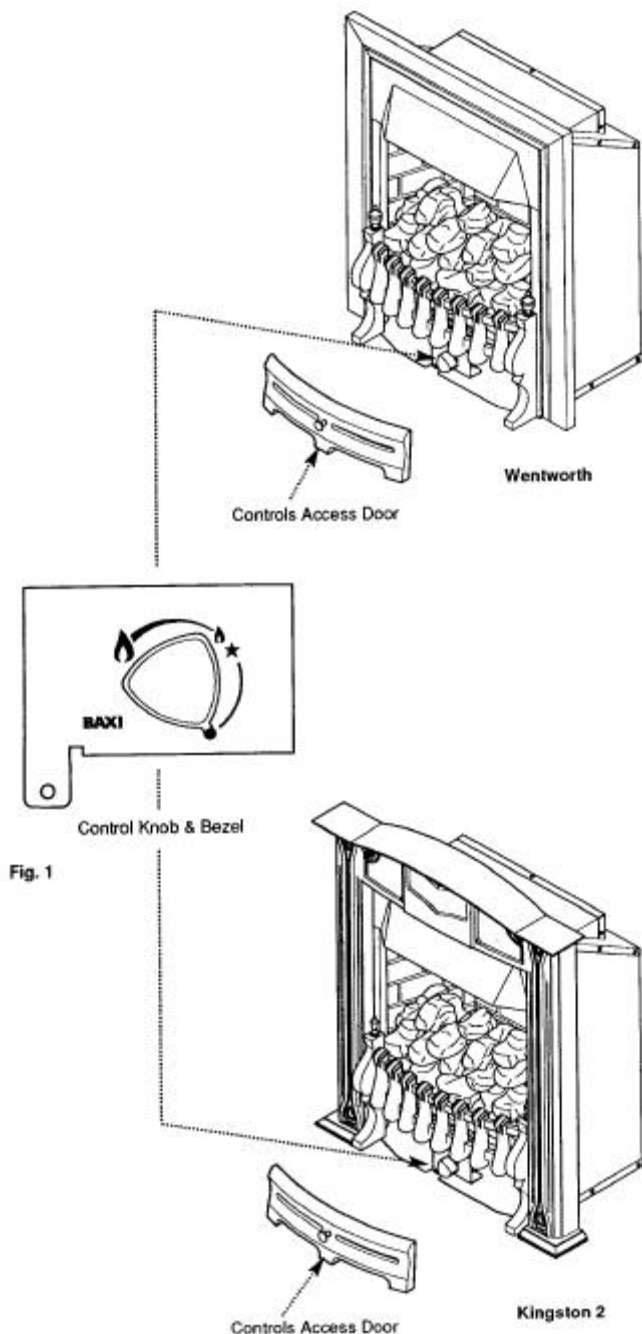

Fig. 1
3. The fire is controlled by a knob which is positioned behind the controls access door on the fender assembly (Fig.1). The knob has four positions: